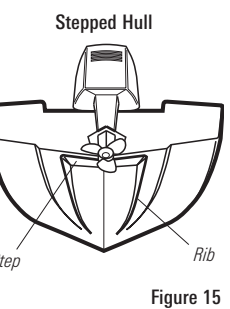

Figure 15
- On boats with stepped hulls, it may be possible to mount the transducer on the step. Do not mount the transducer on the transom between a step to avoid popping the transducer out of the water at higher speeds. The transducer must remain in the water for the control head to maintain the sonar signal (Figure 15).